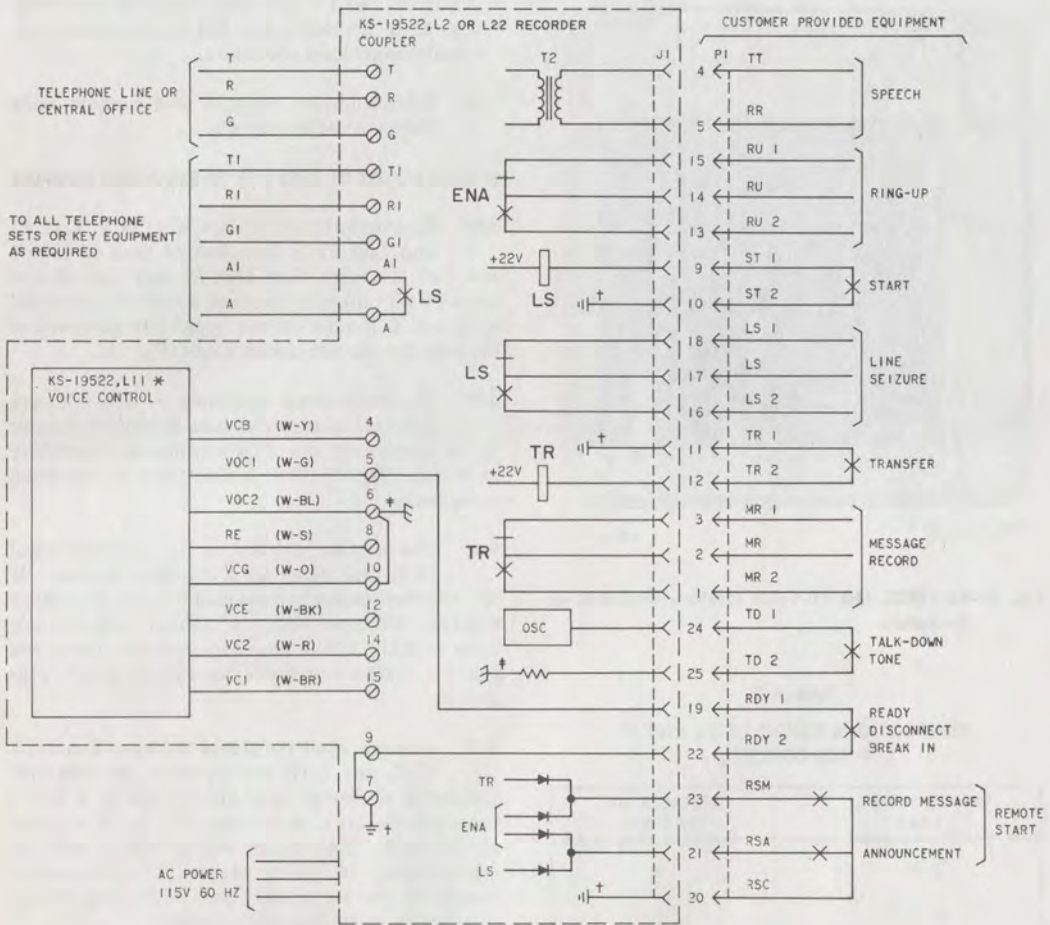
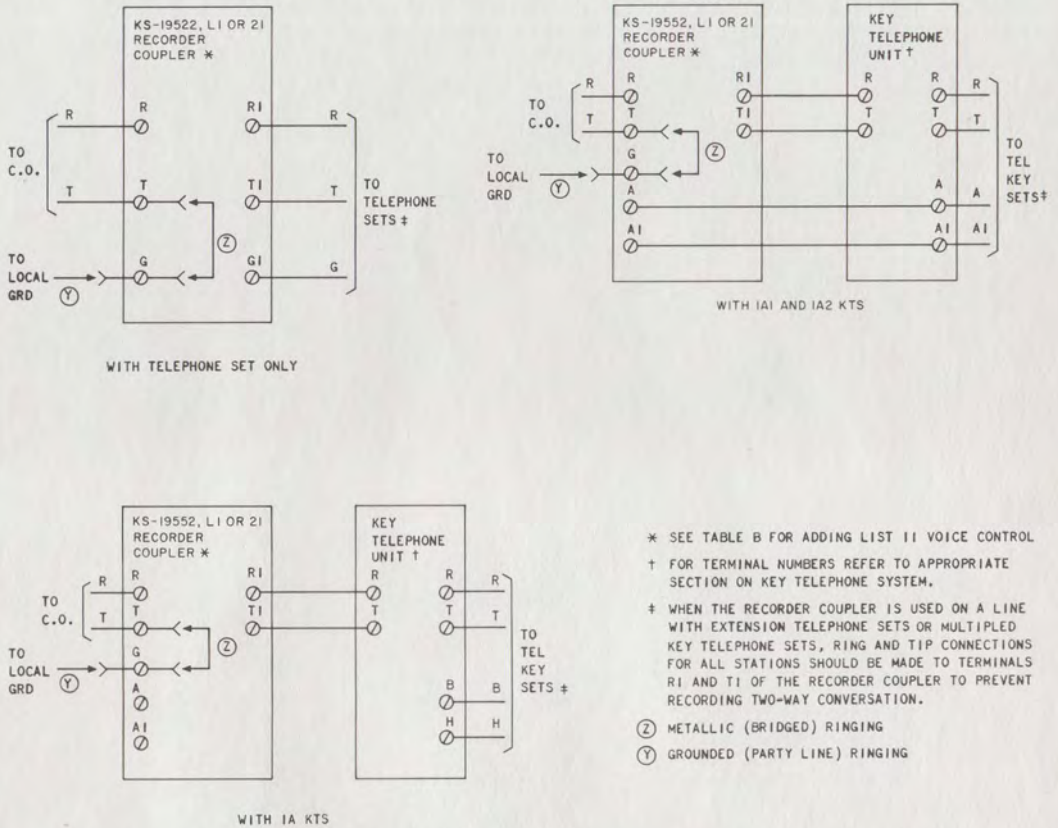

Fig. 10—Simplified Schematic-Voice Connecting Arrangements RDL-RDM
Fig. 11—KS-19522 Recorder Coupler Connections
#### 4. OPERATION (Fig. 10)
**6.02** Fig. 11 shows the connections for the recorder coupler for various telephone set applications. Fig. 10 shows connections for customer's equipment.